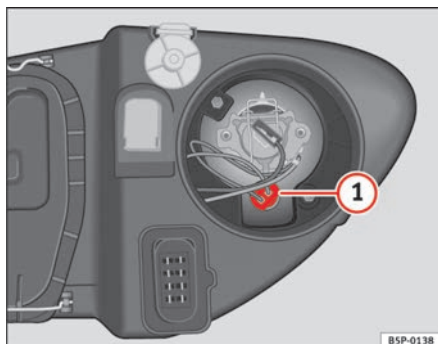

Fig. 186 Side lights
- Extract the lamp holder ⇒ fig. 186 **1** outwards.